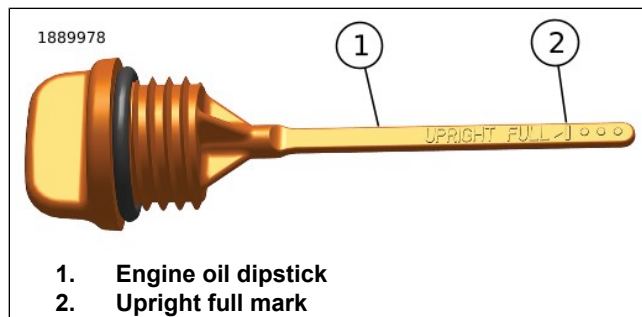

Figure 56. Engine Oil Dipstick (upright full mark)
- e. Figure 56 Oil level must register to the upright full mark (2).
16. See Figure 56. Add only enough oil to bring the level to the add quart mark (2).